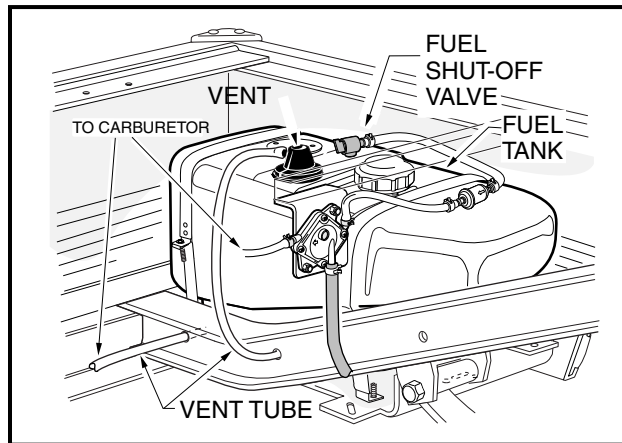
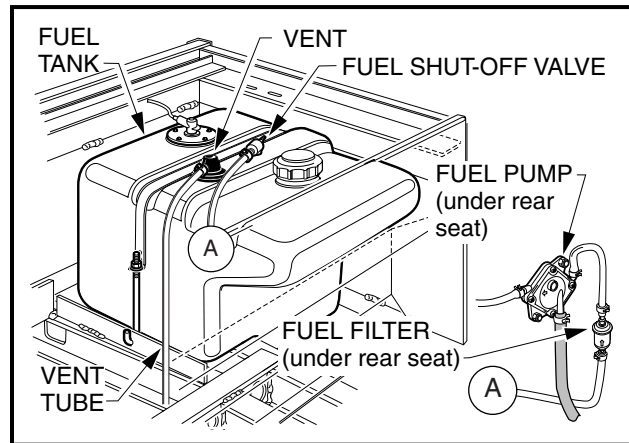

Figure 10-11 Pioneer 1200 Fuel Tank
Figure 10-12 Pioneer 1200SE Fuel Tank
- If the vehicle has an all-weather enclosure installed, the gas tank must be properly vented as shown (**Figure 10-11, Page 10-8**).
1. Fill the fuel tank with fresh, unleaded gasoline only (Figure 10-11, Page 10-8 or Figure 10-12, Page 10-8). See preceding **DANGER**, **CAUTION** and **NOTE**.